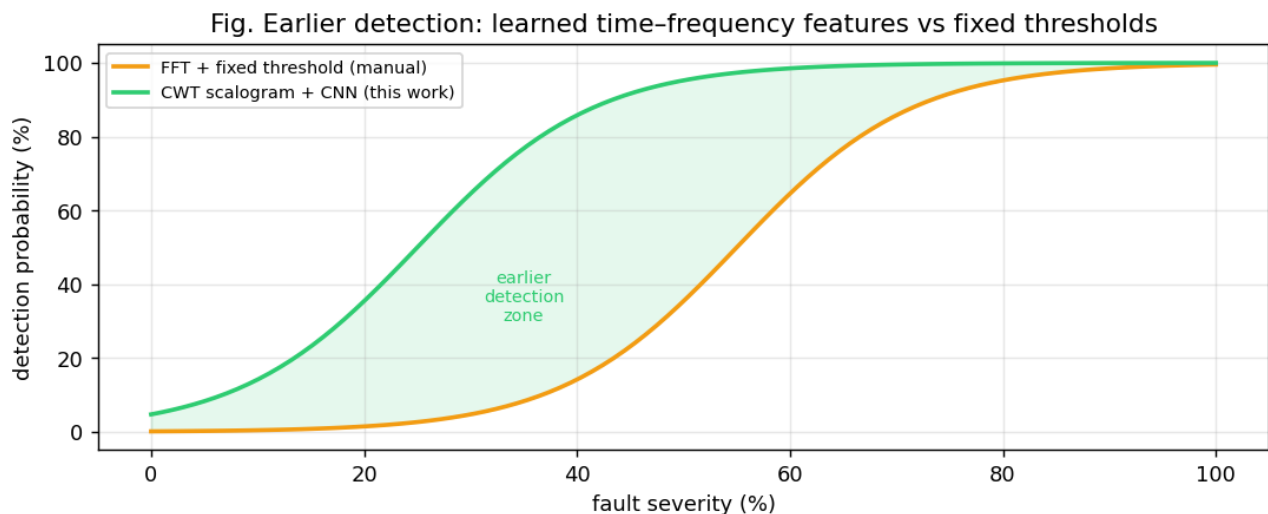

Figure 11: Fig. 11 — Earlier detection vs fixed-threshold FFT
4. **Earlier, more sensitive detection.** Because subtle patterns are learned, the fault is flagged at lower severity than a fixed-threshold FFT alarm (Fig. 11) — buying time before burnout.